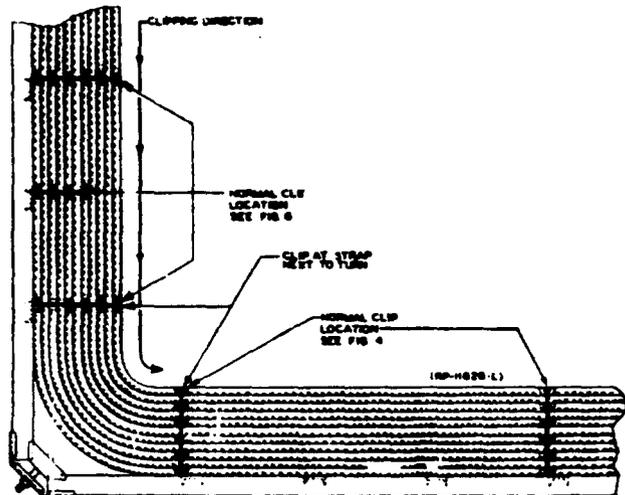

FIG. 6 CLIPS AT INSIDE VERTICAL TO HORIZONTAL TURNS (PAR. 3.34)
3.34 On inside turns from vertical to horizontal cable rack place clips at cross strap just outside the cable bend on each cable rack. See Figure 6.